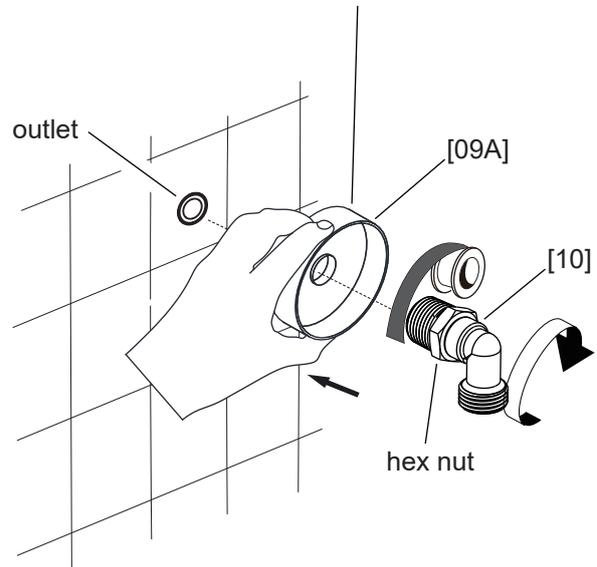

Fig 5.2
- 5-2** Slide the **Base [09A]** on to the **outlet**. The deeper side of the **Base [09A]** faces outside. Install the hex nut of **Nipple [10]** to the outlet and tighten it. Use plumbing tape to ensure good sealing performance. (Fig 5.2)